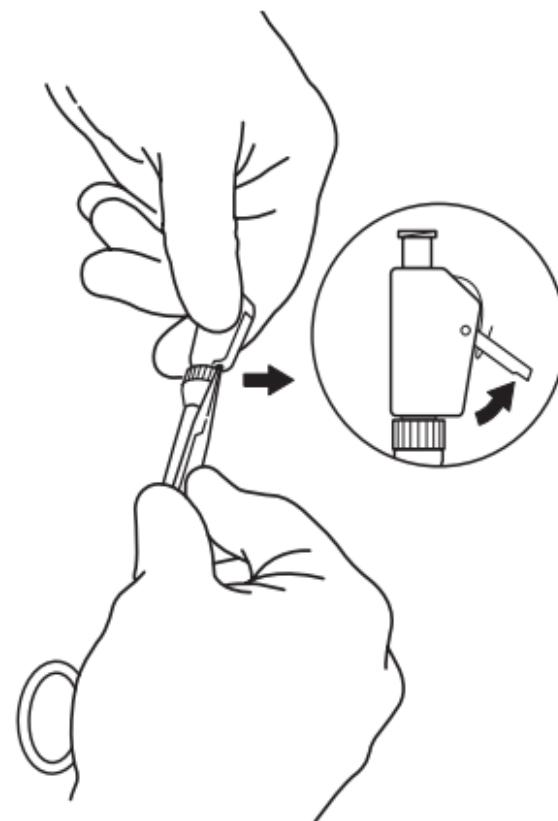

Fig. 5
- b. Pull the sleeve until it snaps over the shoulder of the plastic fitting on the catheter shaft. (**Fig. 5**) **NOTE:** If the locking sleeve is not fully snapped into position, the loop will not be properly secured, and leaking will occur at the locking sleeve.